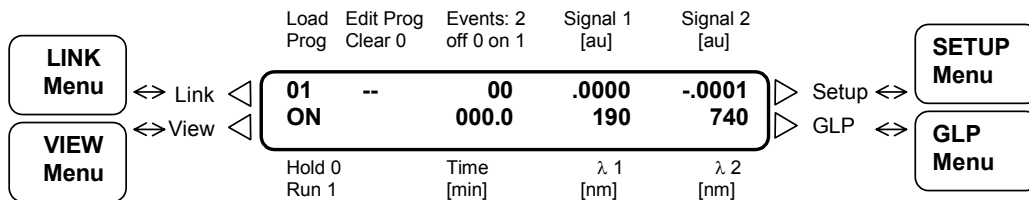

Fig. 4 Overview menu structure
After switching on the instrument, see chapter „Power Supply, ON/OFF, Self Tests“ on page 7, the device is ready for operation, showing on the display the main menu or operation screen. The center part of Fig. 4 shows an example of the main menu.
1. Activate the operation screen, see Fig. 4 on page 10.